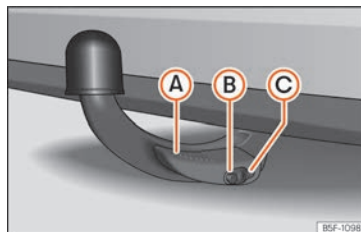

Fig. 258 Detachable ball properly attached.
- Lever (A) » Fig. 258 is fully raised.
- The release bolt (B) » Fig. 258 is sticking fully out (the red and green part is visible).
- Cover (C) » Fig. 258 is placed over the lock.